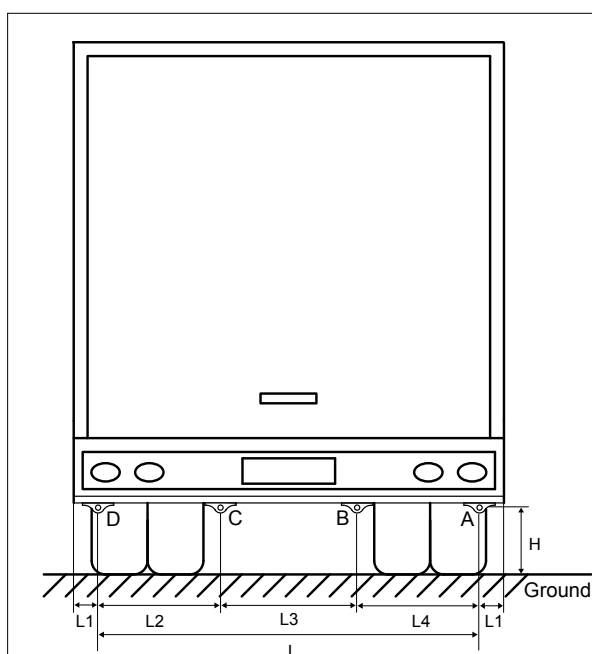

Fig.1 Mounting Height and Position of Sensors
- a) Refer to Fig. 1 for mounting height and position of the sensors.
- b) The four (4) sensors supplied with this system are under bumper type (each sensor is pre-fitted in a sensor bracket with two screw holes for easy under bumper installation). Under the bumper, with chalk or marker, mark the position of sensors, then the two screw holes corresponding to the two screw holes on each sensor